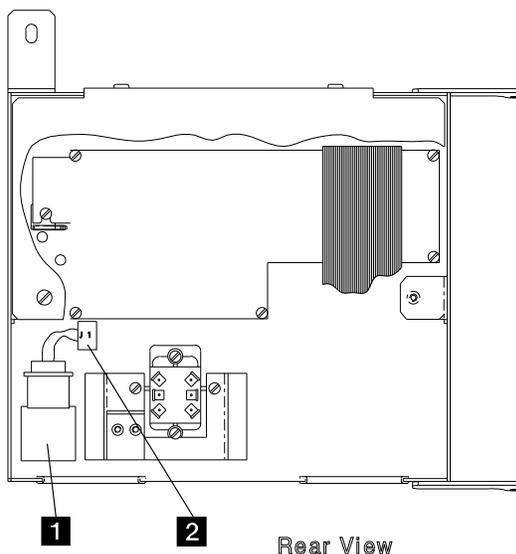

Figure 4-63. Battery Location
4. Locate the battery **1**. Refer to Figure 4-63.